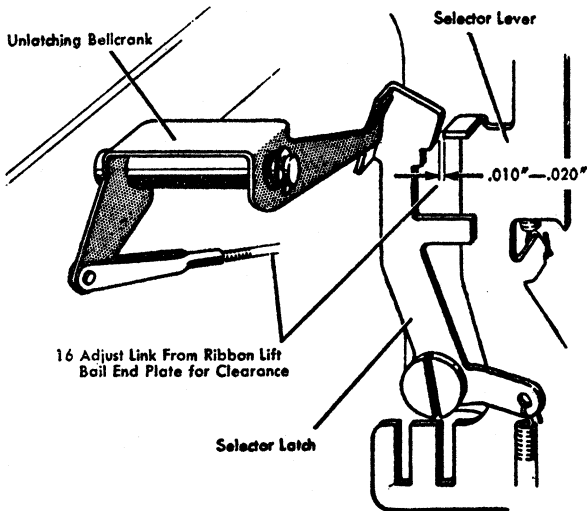

Figure 9. Unlatching Adjustment
16. ADJUST THE LINK FROM THE RIBBON LEFT BAIL END PLATE to the unlatching bell crank so that on the high point of the ribbon cam the selector lever in its highest position clears the selector latch by $.010''$ to $.020''$ (Figure 9).